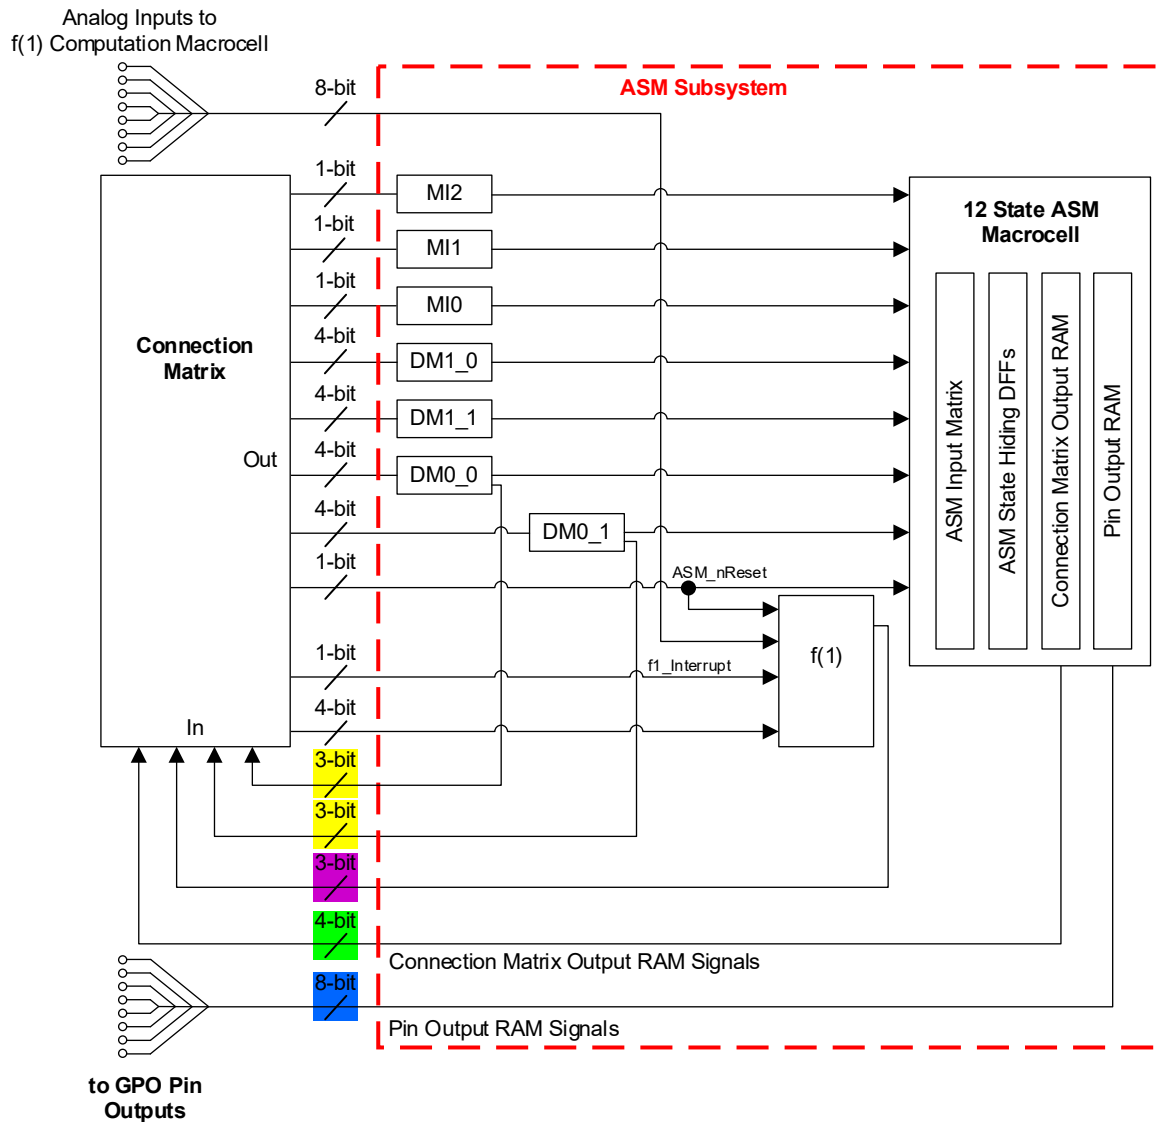

Figure 94. ASM Subsystem Input Signals
The ASM subsystem has a total of 21 output signal lines, as shown in Figure 94.
There are a total of 4 output signals from the ASM macrocell which go to the Connections Matrix inputs and from there can be routed to other internal macrocells or pins. These signals are shown in Figure 94, highlighted in green. The 4 outputs are user defined for each of the possible 12 states. The user selection for the output states is held in the Connection Matrix Output RAM.
There are a total of 8 output signals from the ASM macrocell which go directly to the 8 GPOs. These signals are shown in Figure 94, highlighted in blue. The 8 outputs are user defined for each of the possible 12 states. The user selection for the output states is held in the Pin Output RAM. Each of these GPOs has a single selection bit which defines the GPO input source as either the ASM Output RAM signal or the Connection Matrix signal.
internal macrocells or pins. Each of these macrocells has a total of 3 output signals of this type. These signals are shown in Figure 94, highlighted in yellow.
The f(1) Computation Macrocell has 3 output signals that go to the Connection Matrix, and from there can be routed to other internal macrocells or pins. These signals are shown in Figure 94, highlighted in pink.